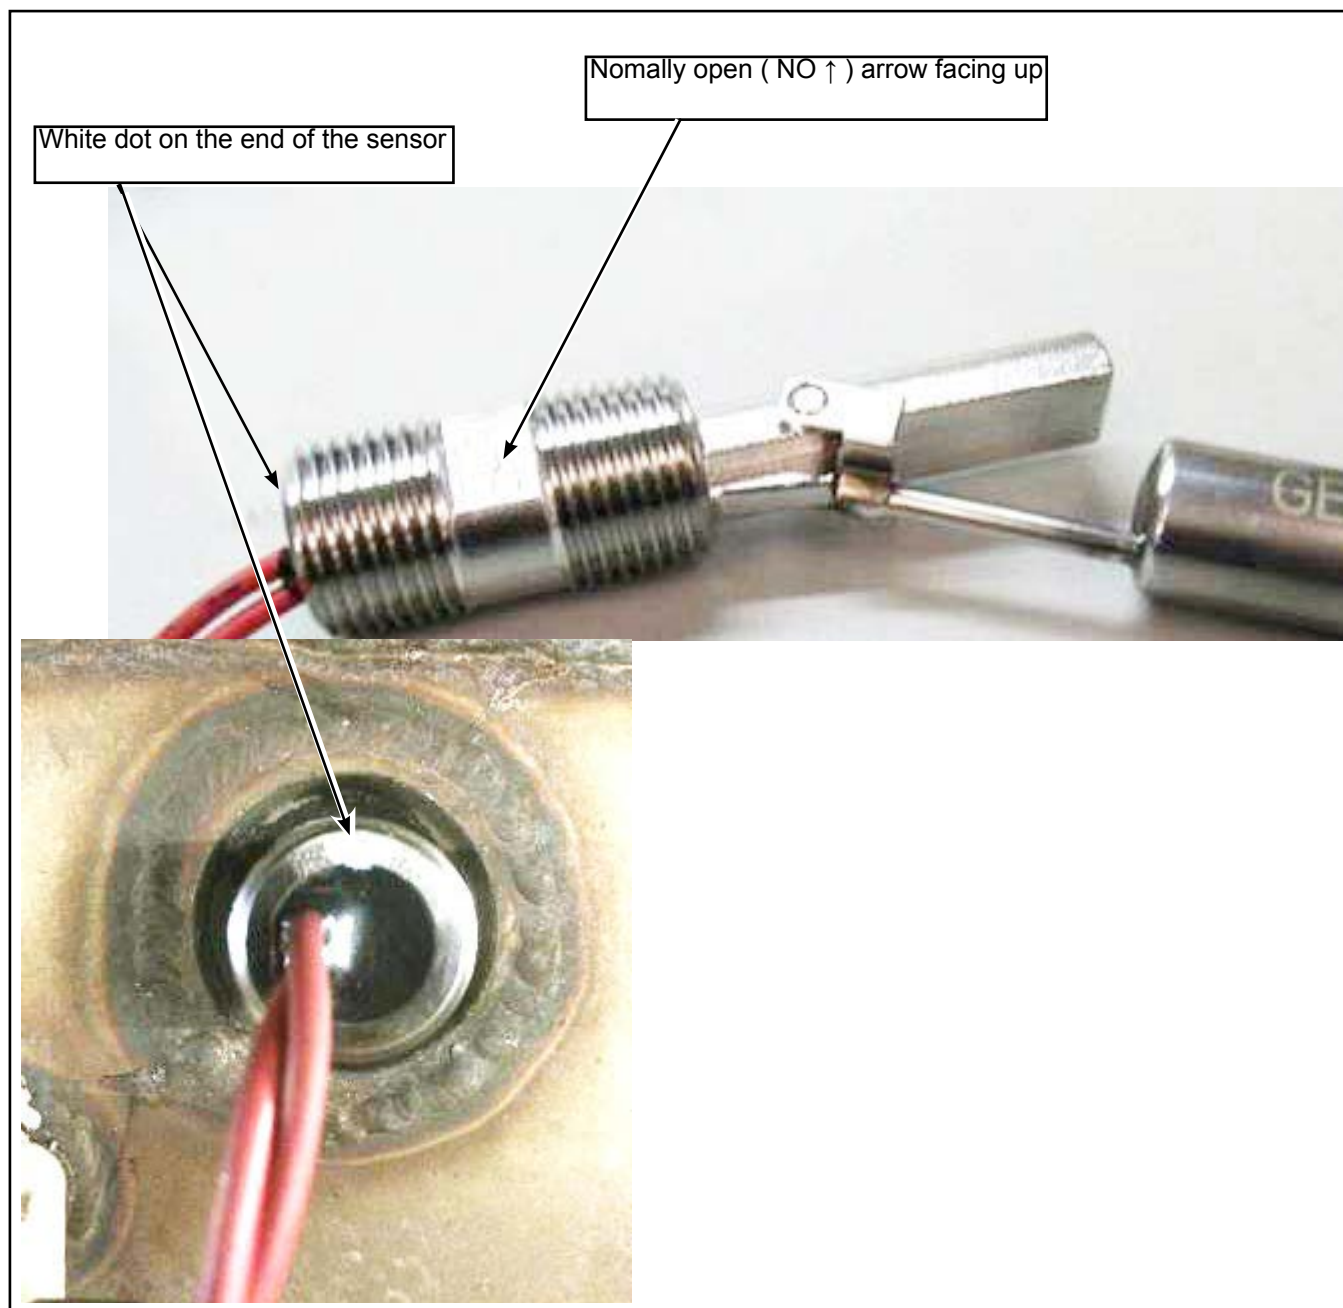

Figure 4 - Low level coolant level sensor position
- 1.8. Hand thread the sensor into the surge tank until tight then use a 16mm open flat wrench to rotate an additional 1 to 2 turns with the normally open (NO ↑) arrow facing up once the rotations are completed. Also notice the white dot will be at the top position (see Figure 4).